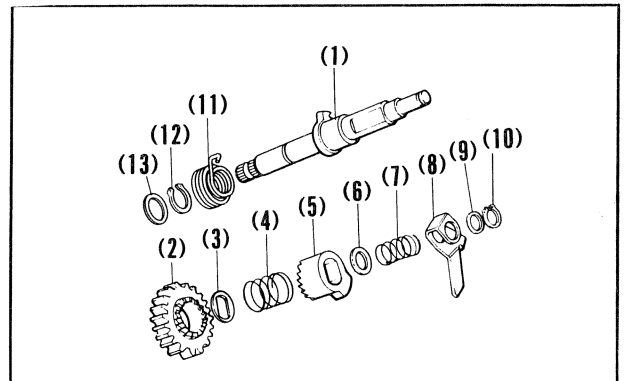

Fig. 4-79
2. Assemble the kick starter in the numerical order in the Fig. 4-79.